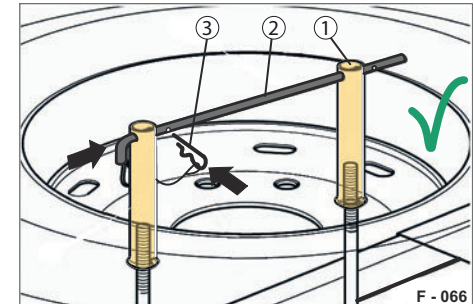

Fig. 87 Spare wheel secured
- ▶ Screw the tube nuts (Fig. 87/1) to the hook bolt.
- ▶ Tighten the tube nuts with the tommy bar (Fig. 87/1) as a lever. Observe the torque specification on the safety latch (max. 80 Nm).
- ▶ Put the tommy bar (Fig. 87/2) through both tube nuts (Fig. 87/1).
- ▶ Push the spring pin (Fig. 87/3) through the rear bore hole on the tommy bar. The spare wheel is secured against falling out.